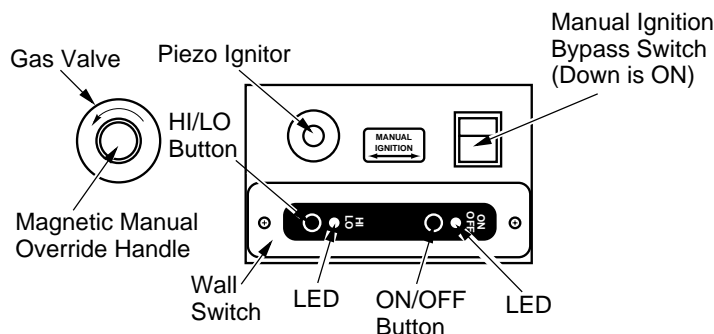

Figure 58 - Control Locations
2. Set manual ignition bypass switch on control panel to ON position (manual ignition position). See Figure 58.
4. Place the magnetic manual override handle, provided with this unit, on the end of the gas valve stem (see Figure 58).
6. While holding the valve handle in the PILOT position, press and release piezo ignitor button (see Figure 58). This will light the pilot. If needed, keep pressing ignitor button until pilot lights.